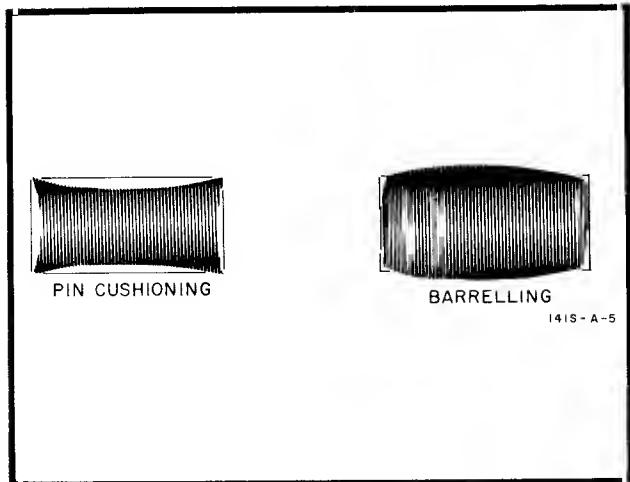

Figure 5-1. Pincushioning and Barreling
h. Check the displayed pattern for excessive pin-cushioning or barreling as shown in Figure 5-1. If either effect is present, adjust R643 to obtain a rectangular pattern with straight vertical and horizontal edges.
- d. Check the displayed pattern for excessive pin-cushioning or barreling as shown in Figure 5-1. If either effect is present, adjust R643 to obtain a rectangular pattern with straight vertical and horizontal edges.